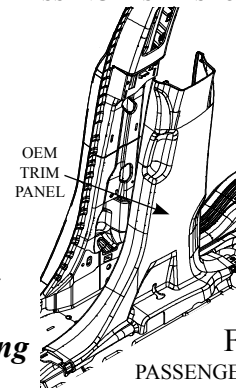

FIG. 2A
- C. Orientate the B-Pillar bracket so the locating tab fits into the Oval Pocket on the vehicle B-Pillar and the formed locating flanges wrap around the vehicle B-Pillar. Push over and up on the Bracket until the locating tab is at the top of the pocket and the flanges are tight against the vehicle B-Pillar edge. Insuring that the bracket is located correctly, using the supplied Self-Drilling screws (3X162) secure the B-Pillar bracket to the vehicle B-Pillar. (See Fig. 2A & 2B)